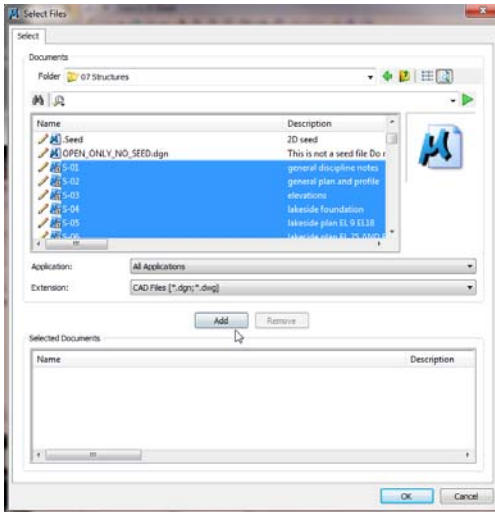

Figure 3
- You can now add files to the print set by selecting the Add button and browse to the Project Wise Project folder from which you will select sheet files to add to the print set. Once selected, the Project Wise dialogs below in figure 3 will appear.
- Browse to the sheet file folder and select files to be added to the print. Select the Add button in Figure 3 to add files.